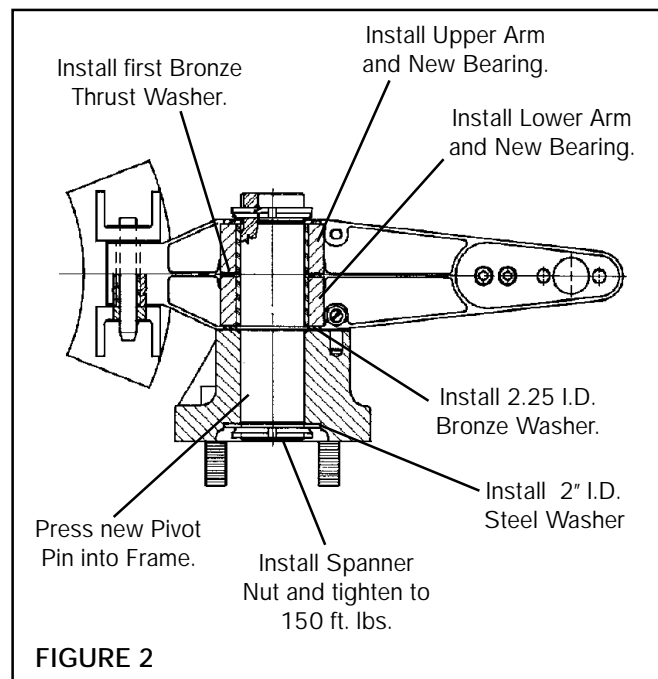

FIGURE 2
3. Using an arbor press, press new Bearings into Arms (See Fig. 2).
NOTE: Insert threaded end first and press until Pin shoulder contacts top surface of Frame (See Fig. 2).
5. Install 2" I.D. Steel Washer over threads of Pin projecting from bottom of Frame (See Fig. 2).
6. Using Loctite® 601 or equivalent, install one Spanner Nut with beveled edge facing Frame and tighten to 150 ft. lbs. torque (See Fig. 2).
7. With projecting length of Pin pointing up, install 2.25 I.D. Bronze Washer over shoulder of Pin (See Fig. 2).
NOTE: Bronze Washer should rest directly on top of Frame (See Fig. 2).
8. Install Lower Arm and Bearing onto Pin (See Fig. 2).
9. Install first Thrust Bearing (See Fig. 2).
10. Install Upper Arm and Bearing onto Pin (See Fig. 2).